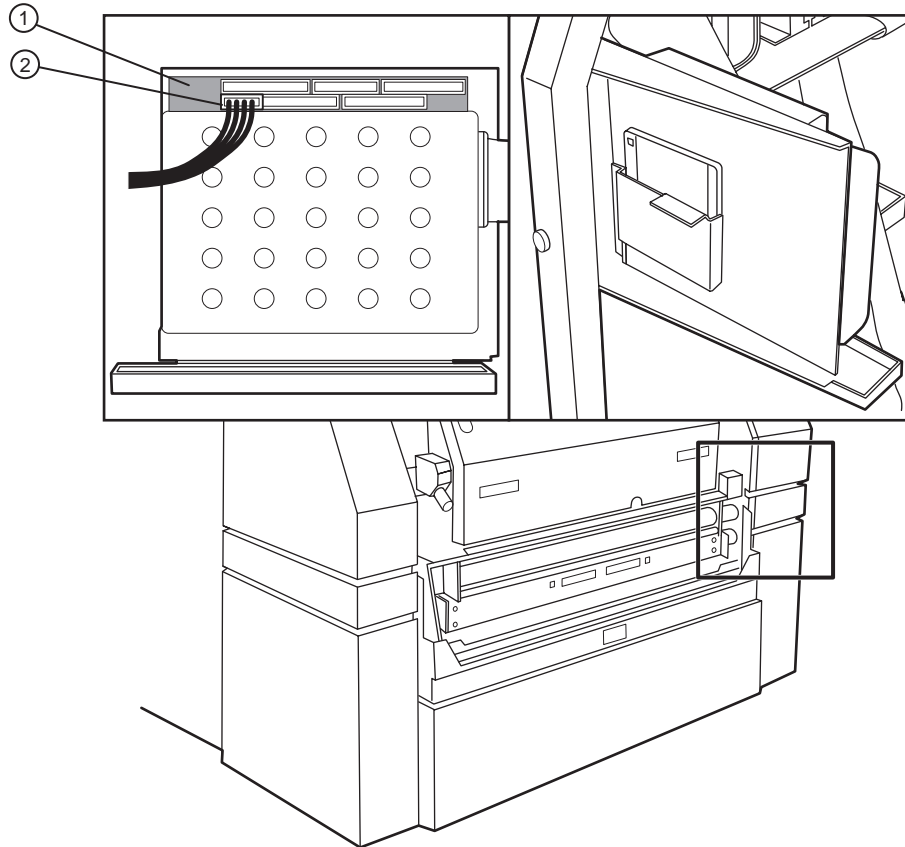

Figure 4-10 Take-up SDM board.
10. Follow the sensor cable up to the take-up SDM board on the right side of the imagesetter. Unplug the sensor cable at its connector (J6) on the board. Refer to Figure 4-10.
5. Install the jam sensor plug into the main shell connector. Refer to Figure 4-10.
6. Install the connector back into the take-up SDM board at (J6). Refer to Figure 4-10.